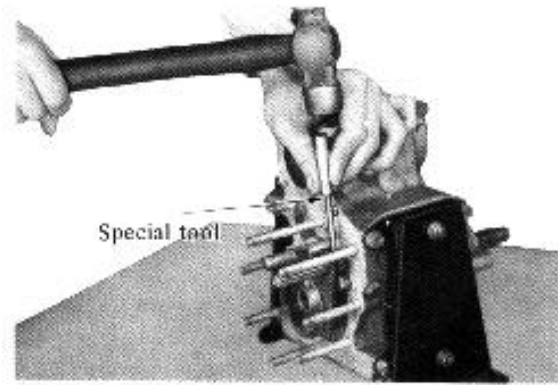

Fig. 9-9
12. Drive out the shift fork spring pin with the special tool spring pin puller (09922 85810) as shown in the Fig. 9-9 and remove the front drive shift fork, reduction clutch hub and reduction clutch sleeve.